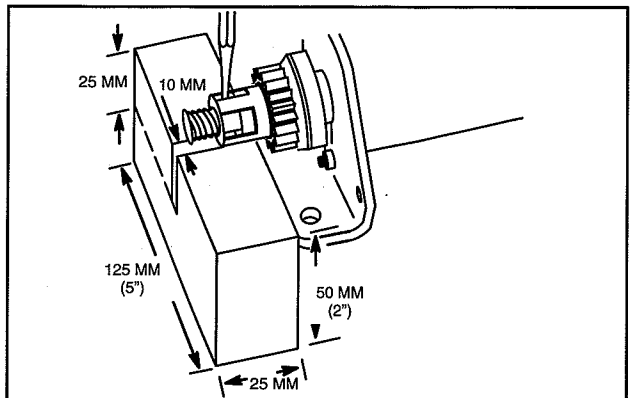

Fig. 14 – Disassembling Starter Drive
1. Place starter drive retainer on support block, Fig. 14.